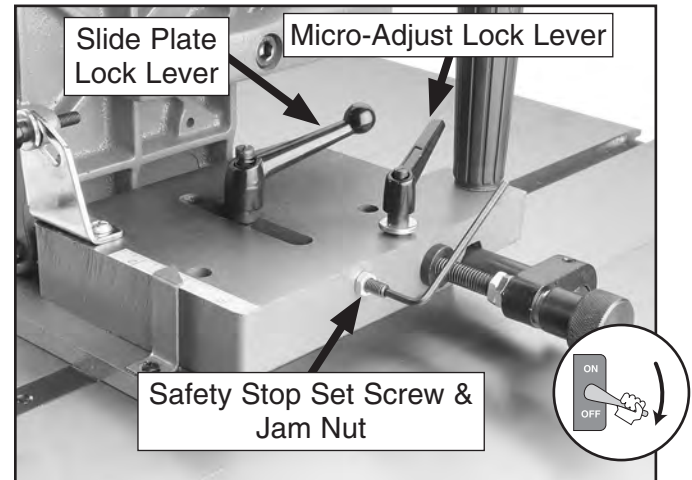

Figure 16. Side support safety stop.
In this procedure you will adjust the side support to be parallel with the saw blade and $\frac{1}{2}$ " away from it, then set the safety stop set screw (see **Figure 16**) so that the side support cannot come into contact with the blade when adjusting for different cuts.
4. Loosen the jam nut on the safety stop set screw, then back the set screw out so that it will not interfere with adjustments (see **Figure 16**).